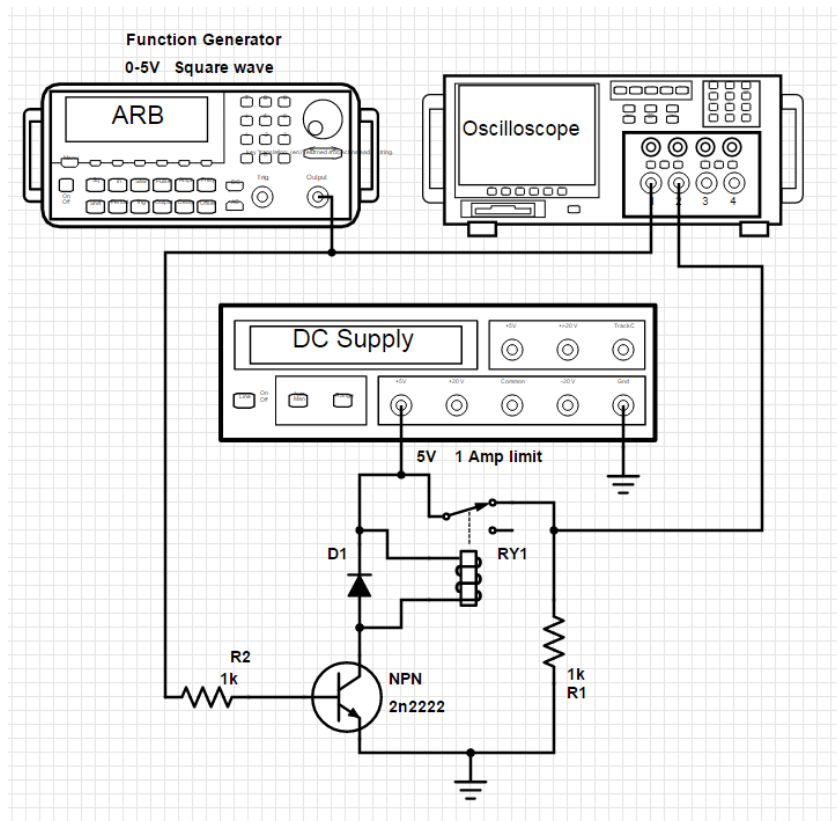

Figure 7: Transistor switching circuit with added relay
6. Now hook up your transistor circuit to switch on and off a relay as shown in Figure 7.